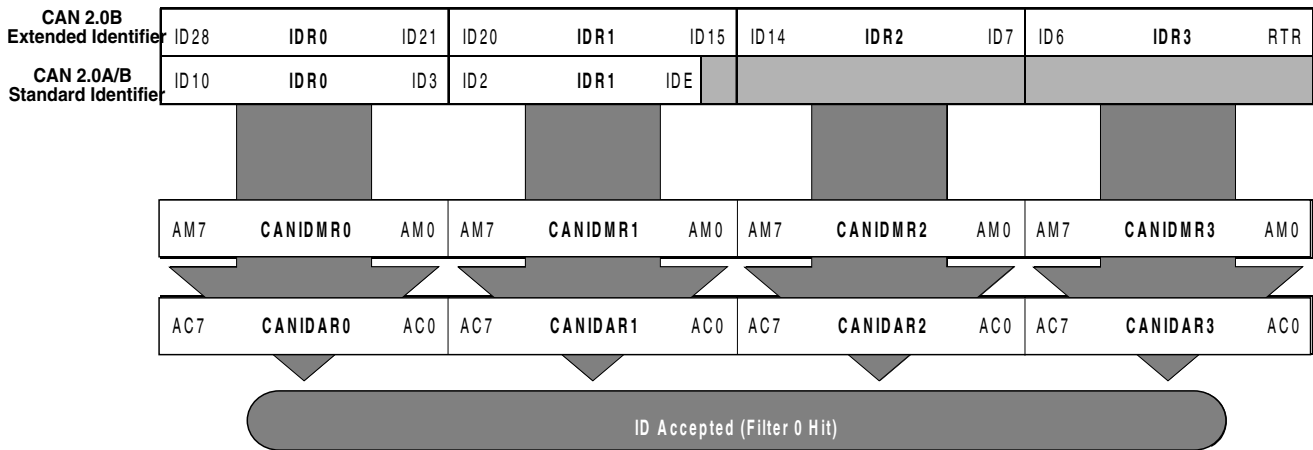

Figure 30-4. 32-bit Maskable Identifier Acceptance Filter
- The 11 bits of the standard identifier plus the RTR and IDE bits of the CAN 2.0A/B messages . This mode implements two filters for a full length CAN 2.0B compliant extended identifier. Although this mode can be used for standard identifiers, it is recommended to use the four or eight identifier acceptance filters. Figure 30-4 shows how the first 32-bit filter bank (CAN_IDAR0–CAN_IDAR3, CAN_IDMR0–CAN_IDMR3) produces a filter 0 hit. Similarly, the second filter bank (CAN_IDAR4–CAN_IDAR7, CAN_IDMR4–CAN_IDMR7) produces a filter 1 hit.